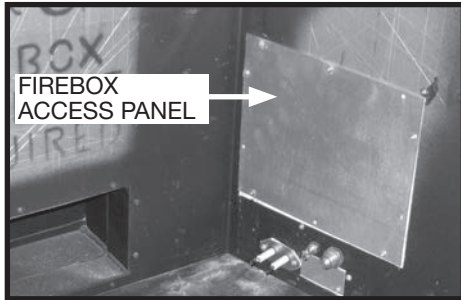

Figure 22: Firebox access panel.
3. Remove access panel from right hand side of the firebox (Figure 22).